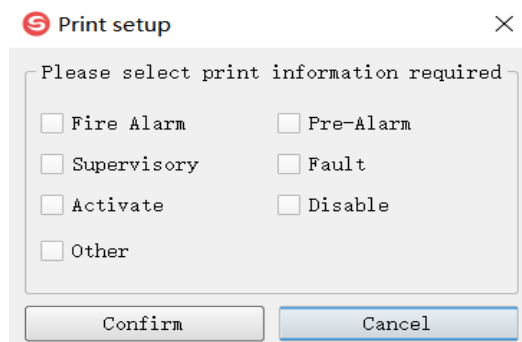

Fig.3-9 PrintInfoSet
- Print Info Set: Click it to choose the information need to print, pop-up window shown in Fig.3-9.